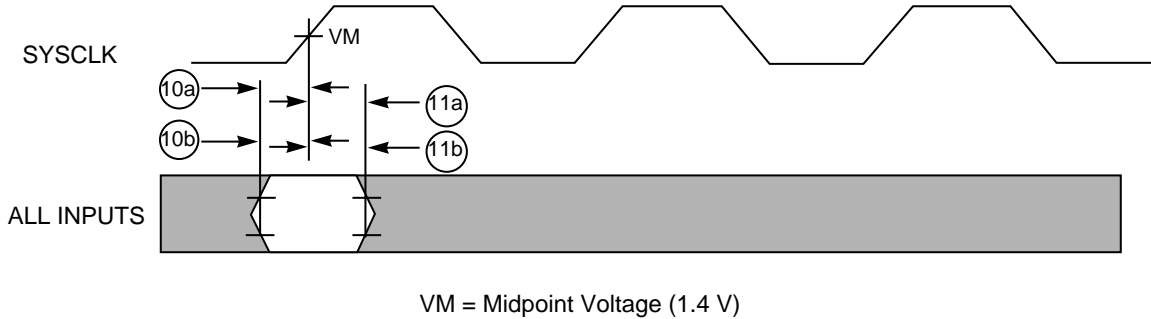
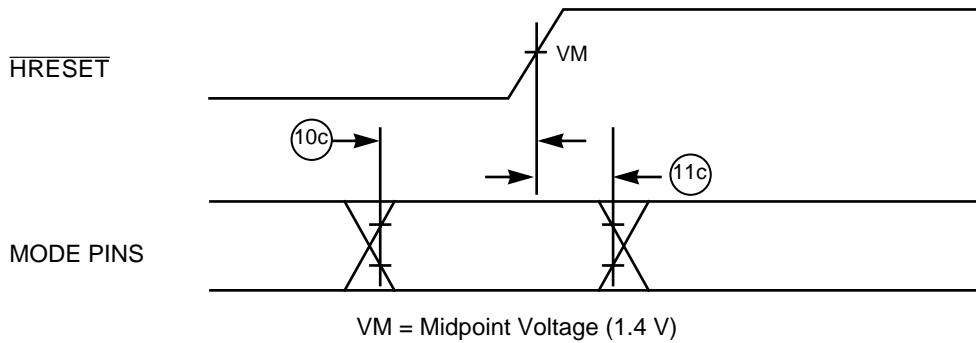

Figure 2. Input Timing Diagram
Figure 3. Mode Select Input Timing Diagram
Table 8 provides the input AC timing specifications for the PID7t-603e as defined in Figure 2 and Figure 3.
- The setup and hold time is with respect to the rising edge of HRESET (see Figure 3).
Figure 2 provides the input timing diagram for the PID7t-603e.
Figure 3 provides the mode select input timing diagram for the PID7t-603e.